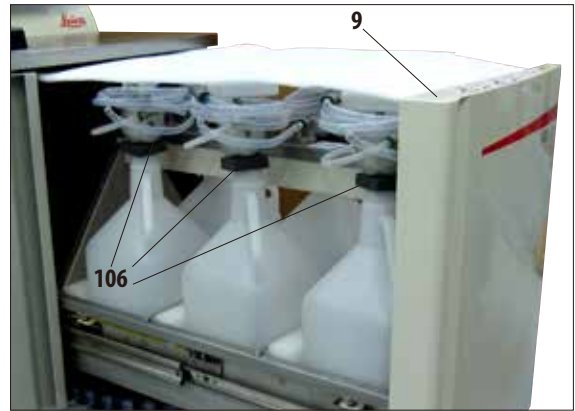

Fig. 18
- Then, open the drawer (9) and remove all foam parts there (Fig. 18). Also remove the six dark gray molded parts (106) from the necks of the RTU-bottles.